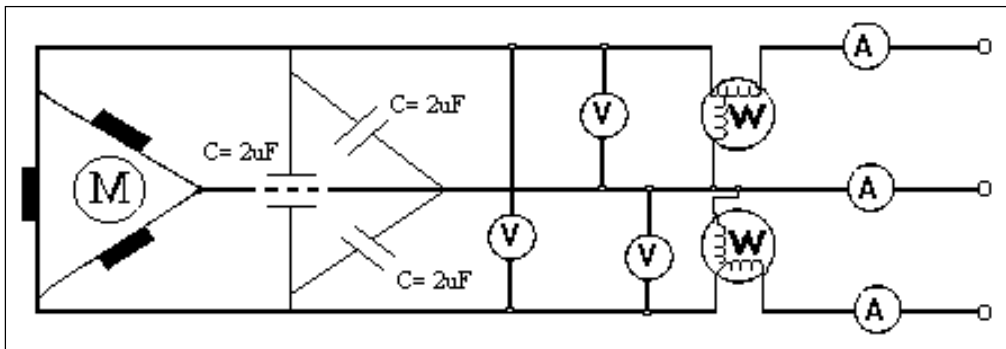

Figure 3.5: 3-phase induction motor  $\Delta$ -connected with capacitors  $\Delta$ -connected.
- Now connect the capacitor bank ( $2\mu\text{F}$   $\Delta$ -connected) across the terminals of the motor as in figure 3.5.